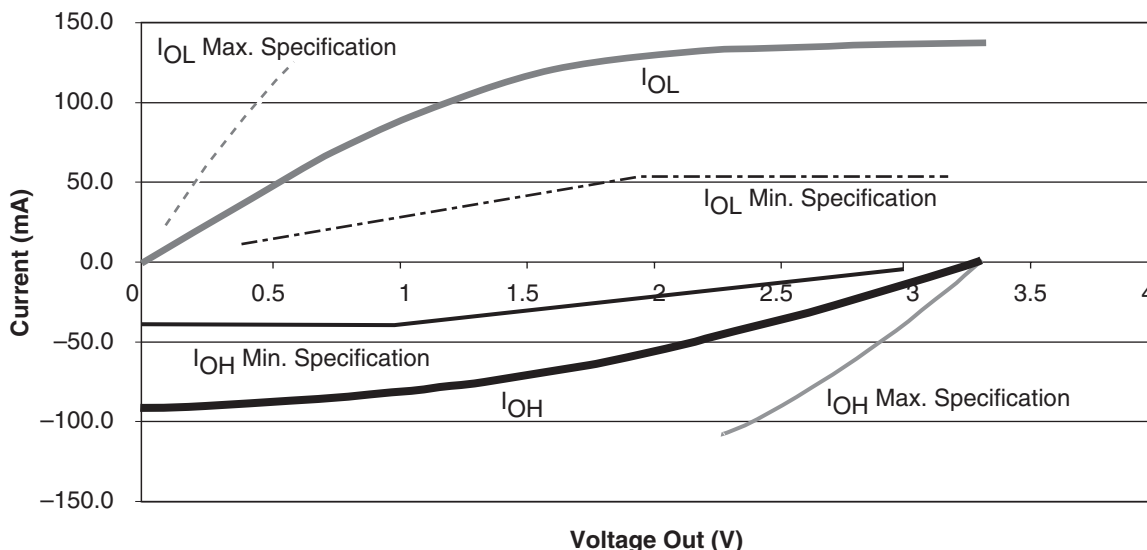

Figure 2-9 • 3.3V PCI V/I Curve for the RTSX-S Family
1. Refer to the VII curves in Figure 2-9 on page 2-19. Switching current characteristics for REQ# and GNT# are permitted to be one half of that specified here; i.e., half-size output drivers may be used on these signals. This specification does not apply to CLK and RST#, which are system outputs. The "Switching Current High" specification is not relevant to SERR#, INTA#, INTB#, INTC#, and INTD#, which are open drain outputs.
2. Maximum current requirements must be met as drivers pull beyond the last step voltage. Equations defining these maximums (C and D) are provided with the respective curves in Figure 2-9 on page 2-19. The equation defined maximum should be met by the design. In order to facilitate component testing, a maximum current test point is defined for each side of the output driver.